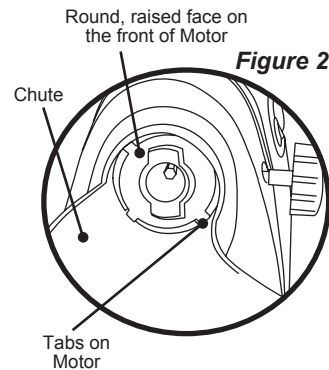

Figure 2
2. Place the head ring of the **Chute** over the round raised face on the front of the **Motor**. Position the tabs on the head ring next to the slots in the corresponding tabs extending from the round face (figure 2).